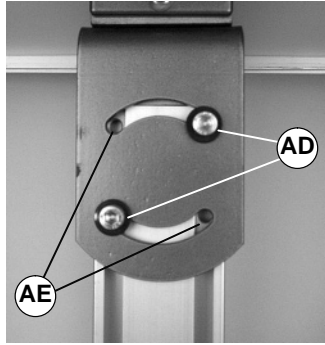

Figure 13
NOTE: To rotate stand top plate, screws (AD of Figure 13) may need to be re-located to holes (AE).